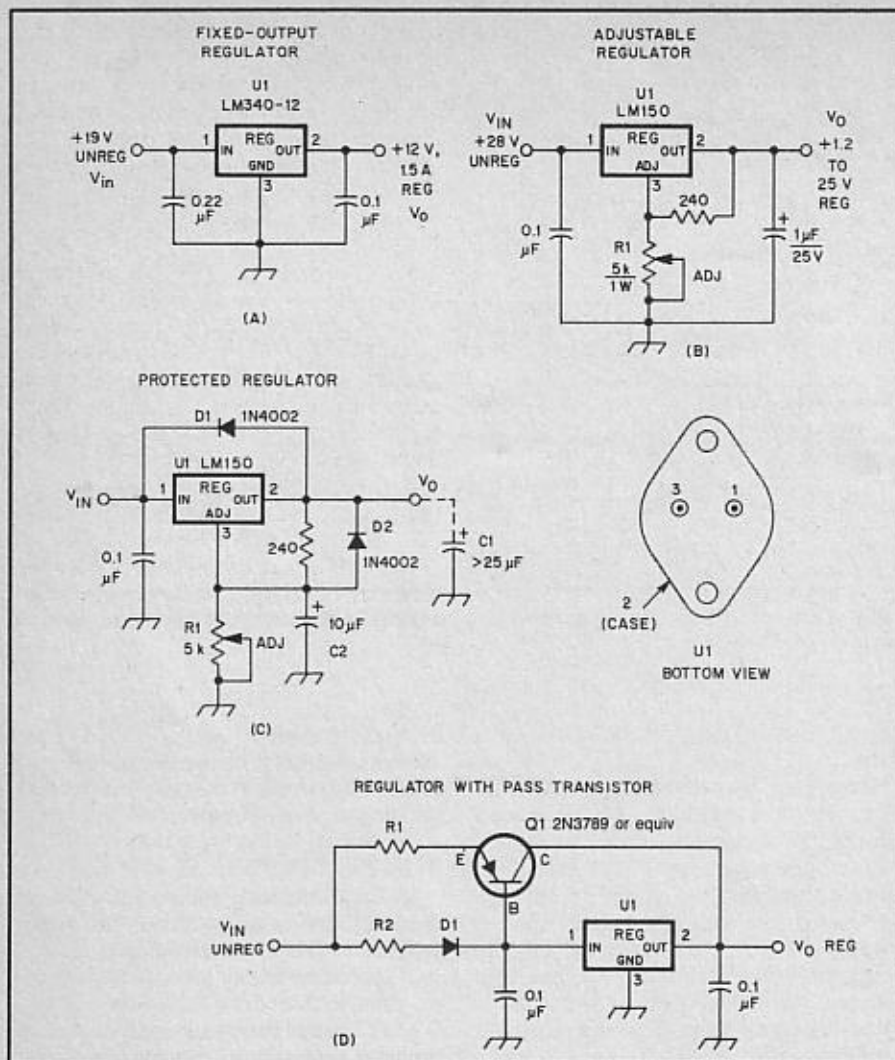

Fig 2—Circuits for three-terminal regulator ICs. These circuits are explained in the text.
Four basic considerations exist for selecting a regulator: (1) the maximum required output current; (2) required output voltage; (3) unregulated input voltage; and (4) ambient temperature. When you know the answers to items 1 and 2, you may consult the manufacturer's data sheets and make a device selection. Always choose a regulator that has a power dissipation ( $P_D$ ) greater than the maximum load current presented by your equipment. Fig 2 shows some simple circuits for three-terminal regulators. The example at A represents a standard fixed-voltage regulator. ICs are available for various standard output voltages at various maximum-current ratings, such as 5 V, 8 V, and so on. They are also available for positive or negative power supplies. Fig 2B shows a typical adjustable regulator of the type that might
be used for a bench supply. An adjustable regulator with protective diodes (D1 and D2) is shown at C of Fig 2. The diodes are recommended when the output capacitance (C1) is 25  $\mu F$  or greater. This may be the situation when the equipment used with the power supply contains a high-value filter capacitor at the voltage-input terminal. The low internal resistance of the capacitor can cause high-amperage spikes when shorted (in excess of 20 A), and this can destroy the regulator IC. D1 protects U1 against input short circuiting (C1), and D2 protects U1 against output shorting (C2). Under the respective shorting conditions, C1 and C2 will discharge through the IC and destroy it.